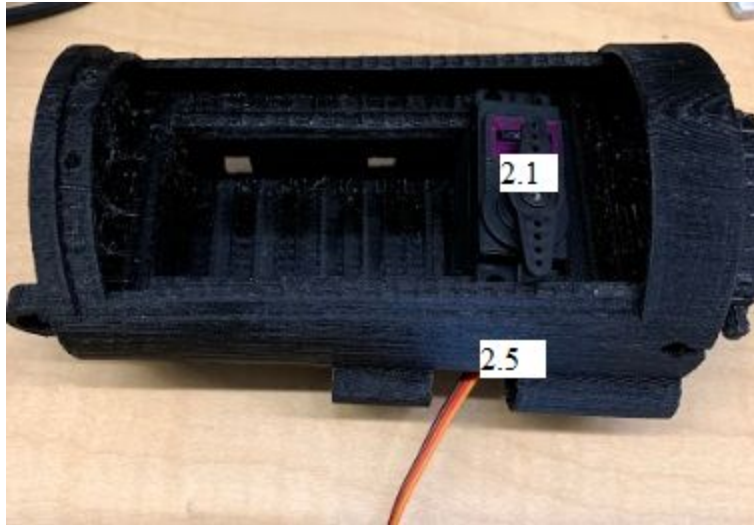
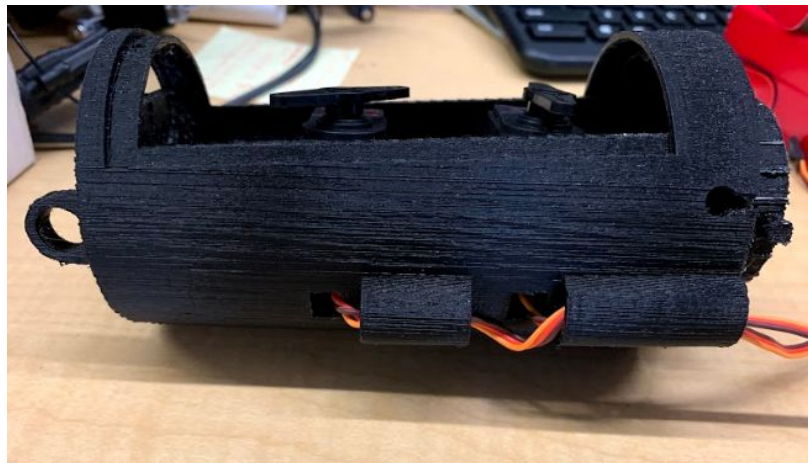

Figure 2.3.2: Inserting Servos
Figure 2.3.3: Threading Wires
Insert the four servo motors (item 2.1) to the front of the forearm (item 2.5) as shown in figure 2.3.2. Thread the wires through the holes at the base of the forearm and out the back (figure 2.3.3). These wires can now be attached to the arduino for actuation. Screw down the servo motors using item 2.2. The lid (item 2.6) can be placed on top and secured using two pins (item 2.7).